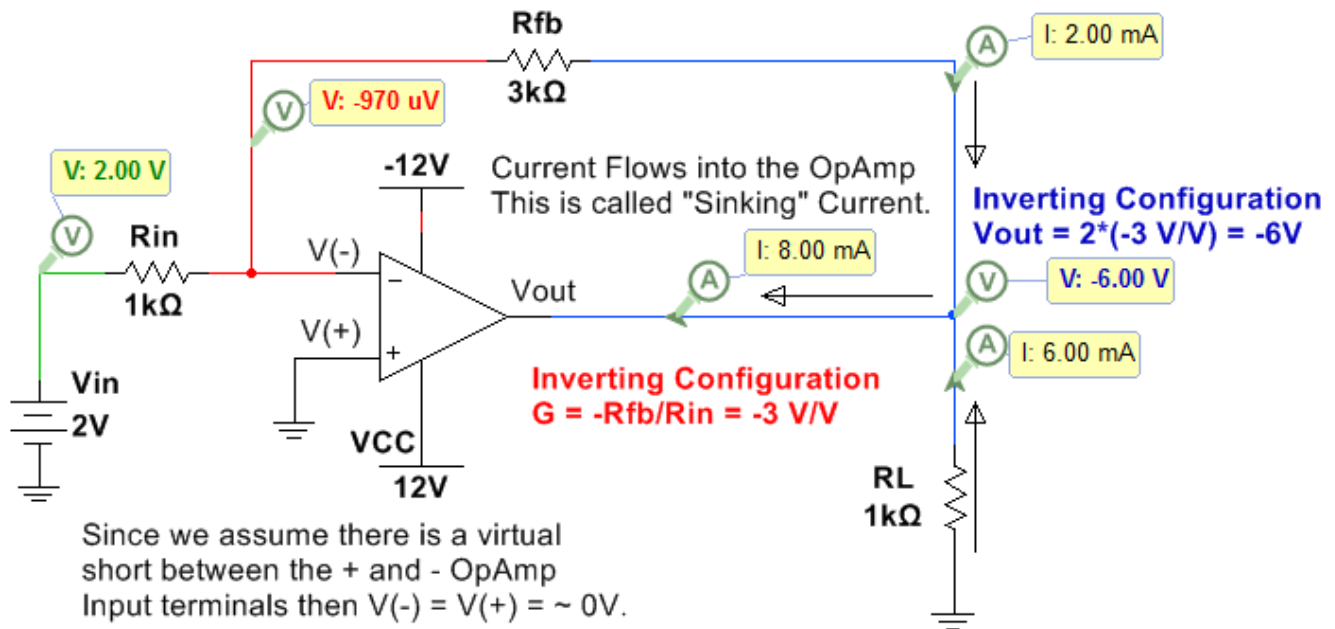

Figure 7.13: Inverting Configuration with a DC input.
- **Inverting Configuration:** If the input voltage is connected the in input resistance (R_{in}) that is connected to the inverting (-) terminal of the OpAmp it is called the “inverting configuration”. An example with a DC input is shown in Figure 7.13 and an example with an AC signal is shown in Figure 7.14. The closed loop gain equations for an inverting OpAmp are shown in 7.2 and 7.3.
The inverting OpAmp configuration is shown in Figure 7.13 (DC input) and Figure 7.14 (AC input).
In the circuit below the instantaneous voltage values (top numbers) are also shown so you can see that at that moment in time the circuit behaves exactly like the DC circuit in Figure 7.13 ($V_{out} = -.994 \text{ V} \cdot (-3 \text{ V/V}) = 2.98 \text{ V}$).